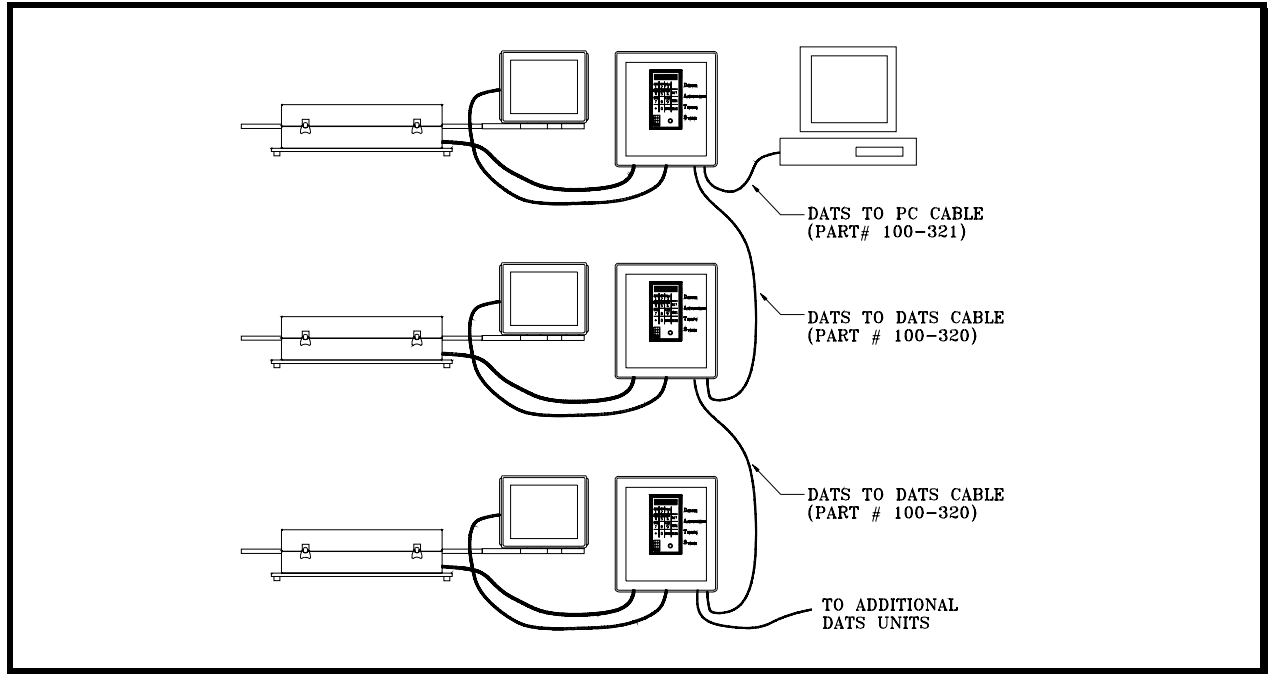

Figure 7. Communication Cable Connections
3. When networking a series of DATS™ Fouling Monitors, connect the DATS to DATS cables between the serial ports on each Electronics box as indicated in Figure 7.
- 1.) Connect the **DATS™** to PC cable from one of the two communications ports on the **DATS™** electronics to one of the serial ports on the PC (Figure 7). Both serial communication ports on the **DATS™** are electrically identical. On multi-unit installations refer to Figure 7 for communications cable connections.